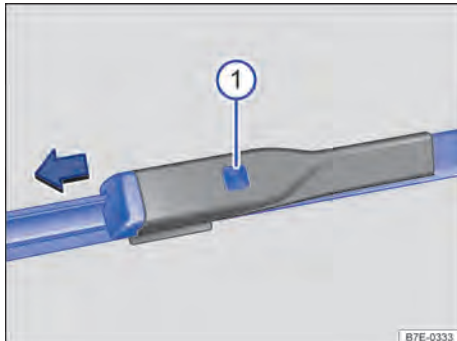

Fig. 180 On the windscreen: changing the wiper blades
① Release button.
3. Press and hold the release button and simultaneously pull off the wiper blade in the direction of the arrow → Fig. 180 ①.